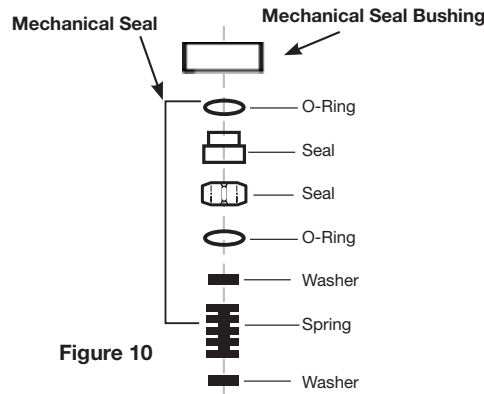

Figure 10
- The mechanical seal will be exposed in the lower portion of the mechanical seal bushing (see Figure 10).